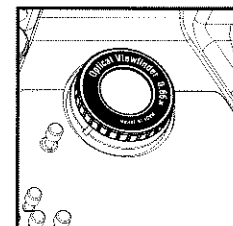

Fig.22
1. Loosen the viewfinder unit attached to rear case by turning counterclockwise and remove (Fig. 22).